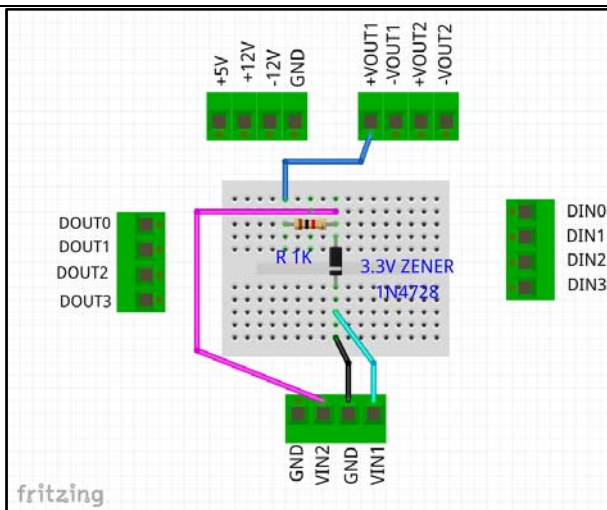
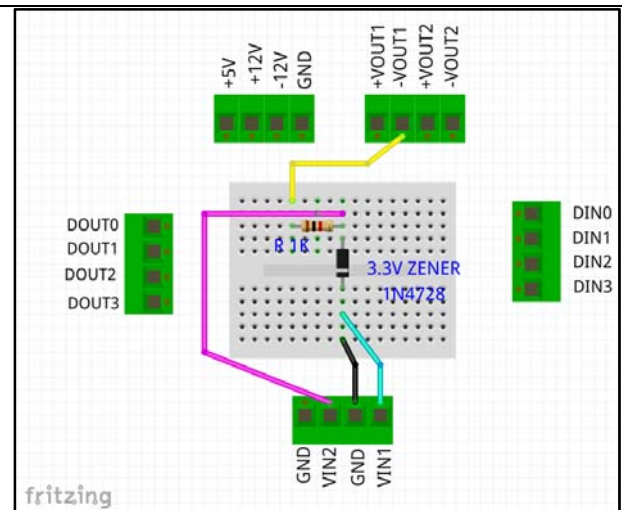

Fig 6. Test Setup (Positive Values)
Fig 7. Test Setup (Negative Values)
3. Using the GUI Feed the test voltages -9V to -0.0V in 0.5V steps, 0V to +2V in 0.2V steps and +2V to +9V in 1.0V steps. Use -Vout1 and Test Setup (Fig 7) for negative voltages and +Vout1 (Fig 6) for positive voltages. Save each set of values.
4. Plot the data using the Plot XY (VI) mode.